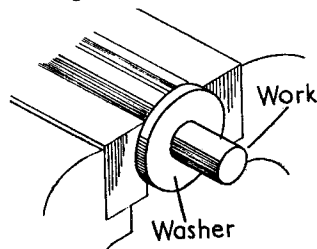
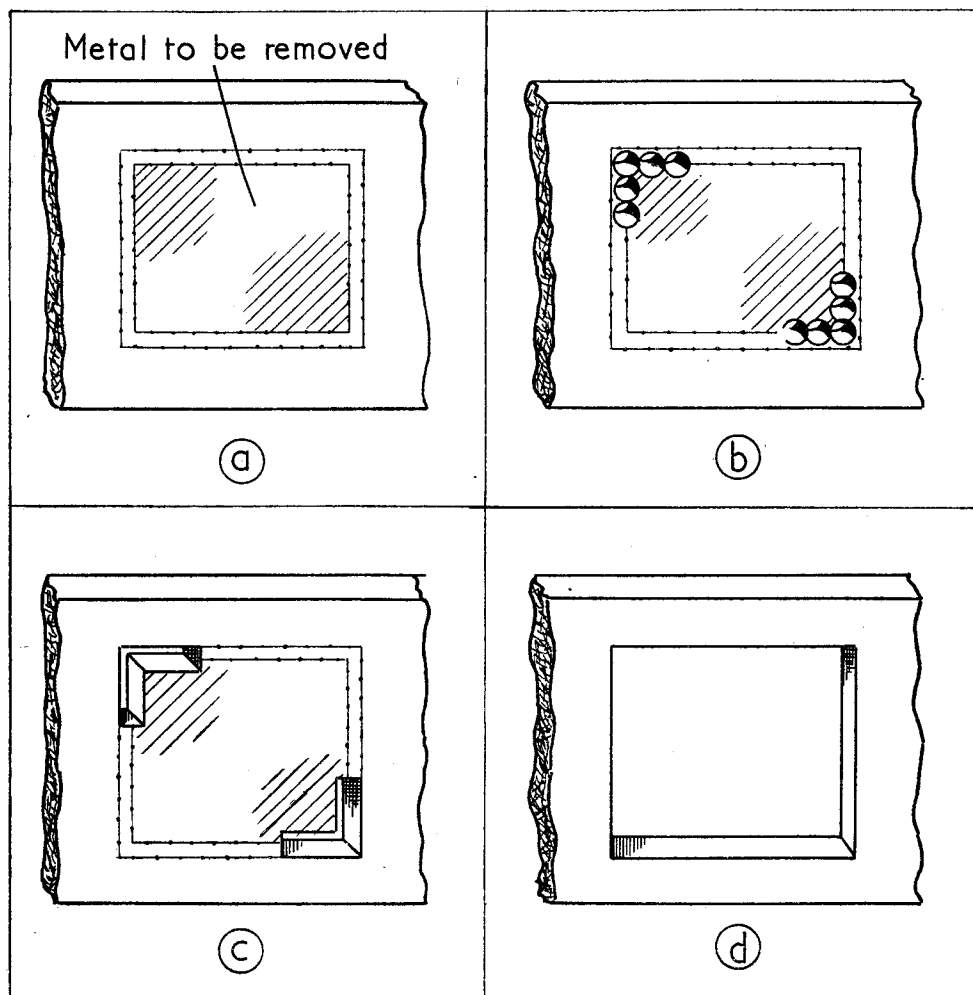

Fig. 5. Using a washer as a fence
Fig. 6. Cutting an internal profile
The holes are then opened out with a square file to allow a saw blade to be passed through the work, as seen in Fig. 6 (c). Sawcuts are then made to remove the unwanted metal. Finally, as shown in Fig. 6 (d), the work is filed along the scribed lines to complete the operation.
the vice and projects for the requisite distance ; at the same time an allowance must be made for the thickness of the washer, Fig. 5. It is sometimes necessary to cut out an internal profile, an example of which is shown in Fig. 6 (a). The first step is to mark-out the work. Next, as shown in Fig. 6 (b) a series of holes must be drilled at opposite corners. Before doing so, however, the centres of these holes must be marked out to avoid drilling into the lines of the profile and to obviate the holes themselves breaking into one
as a precaution against damage when the saw breaks through. If the holes forming the radii are large, pieces of hardwood will make suitable plugs; for small holes, as previously explained, brass plugs should be used. Finally, the profile is formed by accurately filing to the scribed lines. Where internal profiles are of some considerable length, the method just described is hardly the best as it involves a great deal more sawing than is necessary, so it is clearly desirable to make a machine do most of the work, if possible. Therefore, the material should be marked-off as already shown in Fig. 6 (B), so that a series of holes may be drilled all round the profile, thus removing the bulk of the metal. A small Eclipse 6 in.  $\times$   $\frac{1}{4}$  in. sawblade is then used to cut through the metal joining the drilled holes, after which the profile is filed to shape. Internal profiles which are either irregular or curved can only be cut in this way, unless resort is had to fretsawing, a method only to be recommended for thin material.